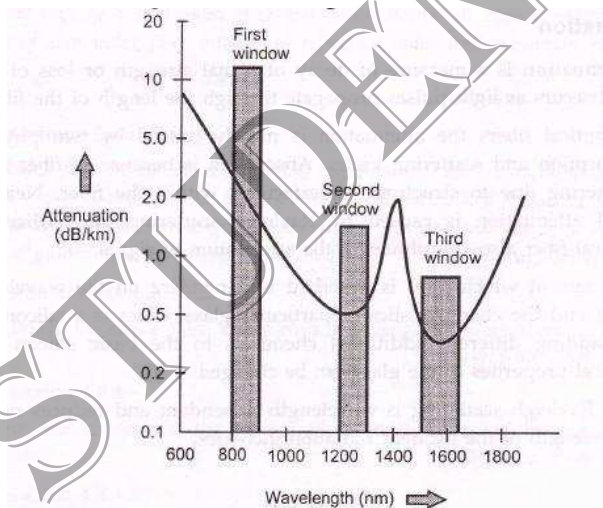

Fig. 2.1.1 Fiber attenuation as a function of wavelength
- x Attenuation is also a function of wavelength. Optical fiber wavelength as a function of wavelength is shown in Fig. 2.1.1.